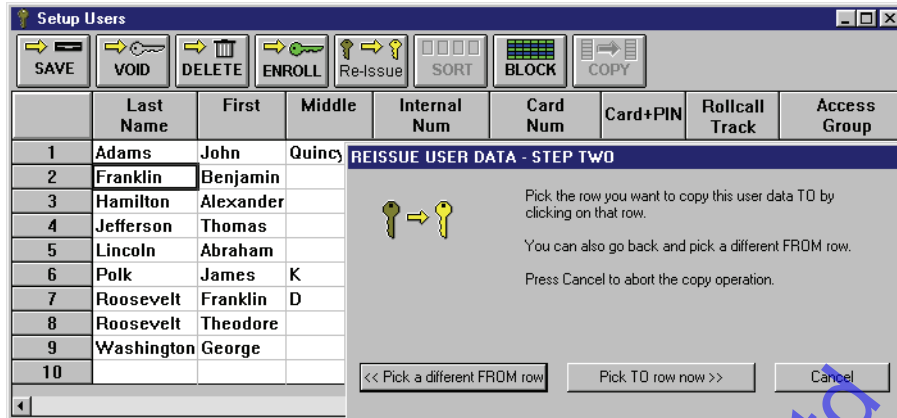

Figure 4-46: Reissue User Data – Step Two
3. If any cell in the row for the user that will be reissued a card is highlighted (as shown in Figure 4-45) click on the  button. If a different user is desired, click on the  button and the Setup Users spreadsheet appears. Scroll through the list of users and click on a cell for the user that will be reissued a card (see Figure 4-45). A window similar to Figure 4-46 on page 38 of this section appears.